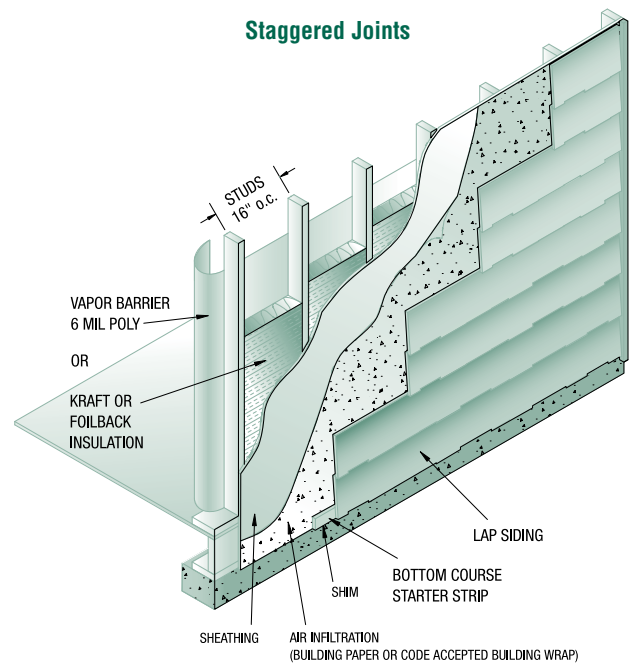

FIG. 6
- A continuous vapor barrier rated 1 perm or less is required across the interior side of all walls to be sided. Examples include 6 mil polyethylene and kraft-backed or foil-backed insulation stapled tightly to the face or sides of the studs. See Fig 6.
- Starter strip should be 4-5" wide, 1/2" thick and be installed to hang below shim approximately 1". See Fig 6. (If desired, the starter strip can be cut from **Designer Shake** and the bottom half of the lap used for the top course.)